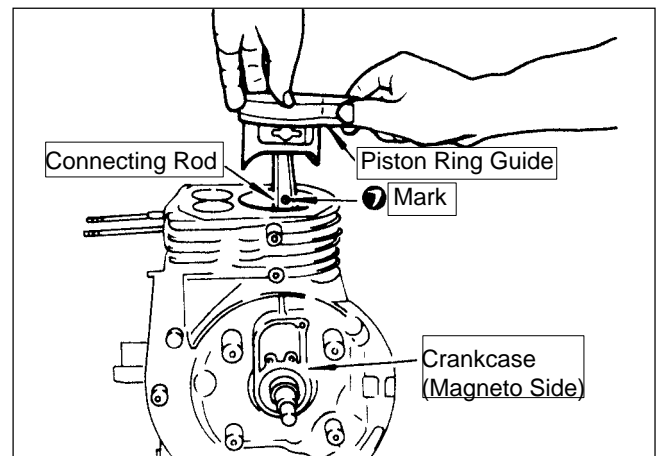

Fig. 5-18
3) When installing the connecting rod assembly into the cylinder, hold piston rings with the ring guide as shown in Fig.5-18 (if no ring guide is available, keep pressing the piston rings with finger tips and gently strike the top of the piston with a plastic hammer or the like to push it in), and check that the symbol  or mark MAG on the connecting rod is to face the flywheel magneto side.